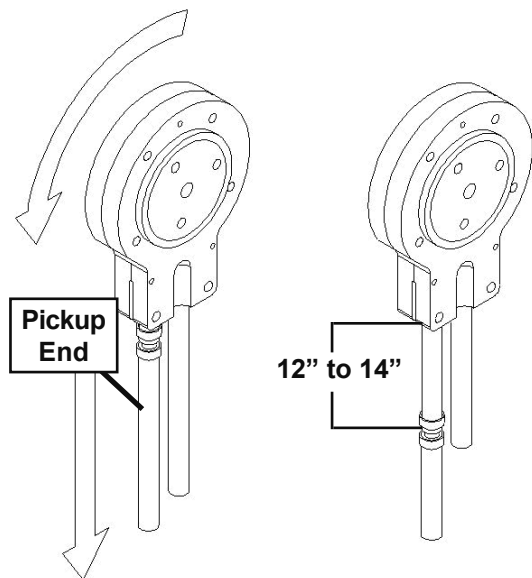

Figure 4-2 Pump Hose Reposition
- C. Grasp the pickup hose end of the mix pump hose with one hand and turn the pump on. Pull down on the pickup hose end until 12 to 14 inches of tubing has fed through the pump then turn the pump off (Fig. 4-2).